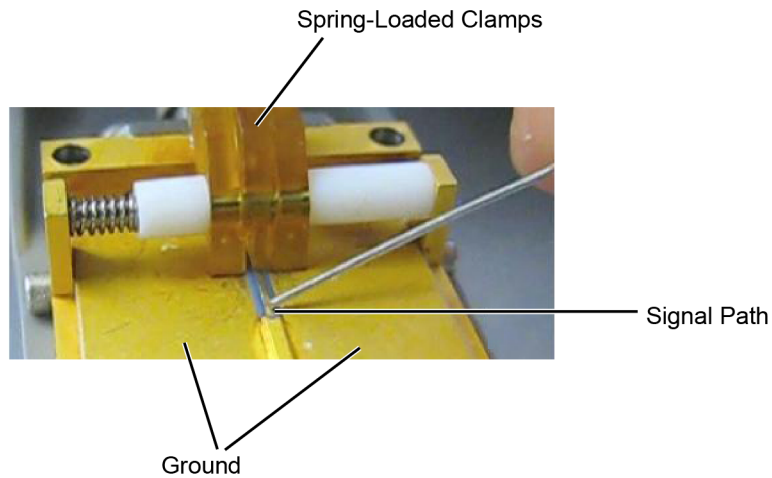

Figure 81 Closeup of Fixture's Signal Path, Ground, and Clamps
- h While pressing down on the N5443A fixture's spring-loaded clamps, insert the probe wires beneath the clamps. The N5443A's clamps, ground, and signal path are identified in **Figure 81**.